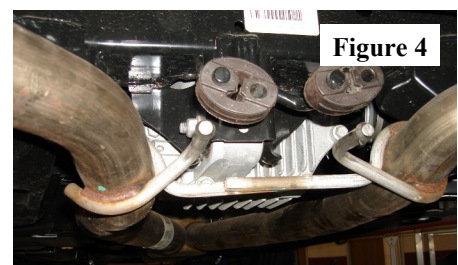

Figure 4
4. Using a muffler stand or an additional person to hold the rear muffler into position, remove the hangers from the rubber isolators and at each rear muffler. (See Fig. 4)